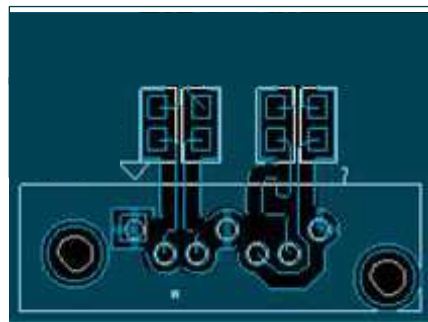
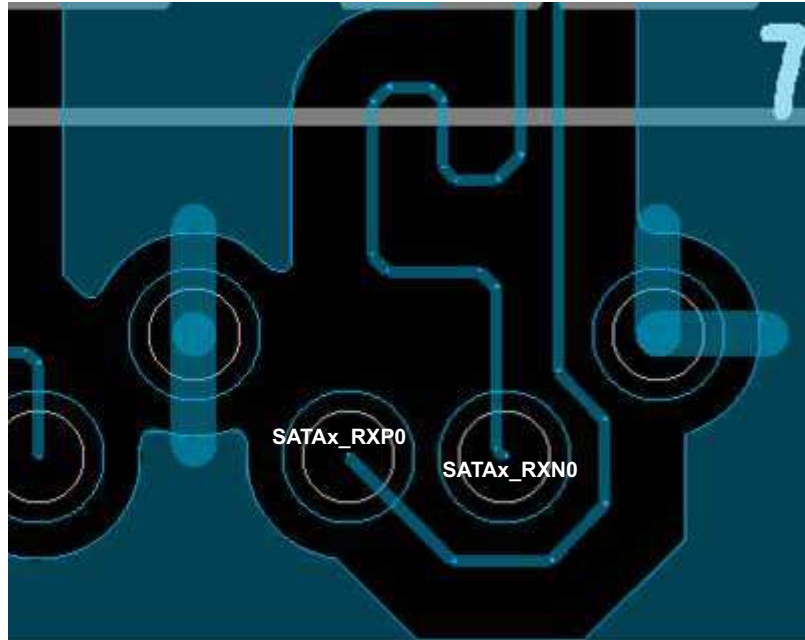

Figure 8-79. SATA Routing
Figure 8-80. Close Up of SATA Routing
2. Use the method pictured below in Figure 8-79 and Figure 8-80 to route to the SATA connector. This method results in lines that are still length matched, and still on just one single layer.